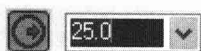

Fig.1-12 Hard-locked
- ③ Hard-locked (shown in Fig.1-12): The data is locked until you manually unlock the field.
- ③ 硬锁定 (如图 1-12 所示): 数据锁定直到手工解锁。